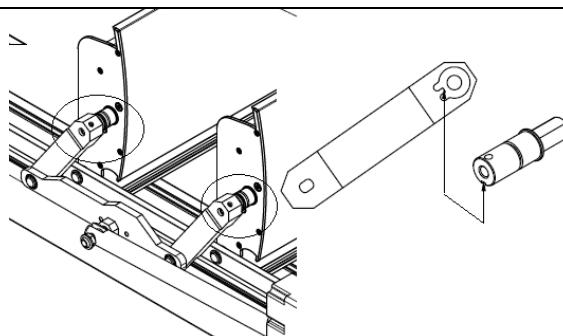

Figure 49
12. Slide one of the drive arms located inside the beam onto the blade drive pin inserted into the beam - using access from the inner window at the top of the drive beam (next to the motor). Pay attention to the exact fit of the grooves of the drive arms and shaft in the blade (fig. 49).